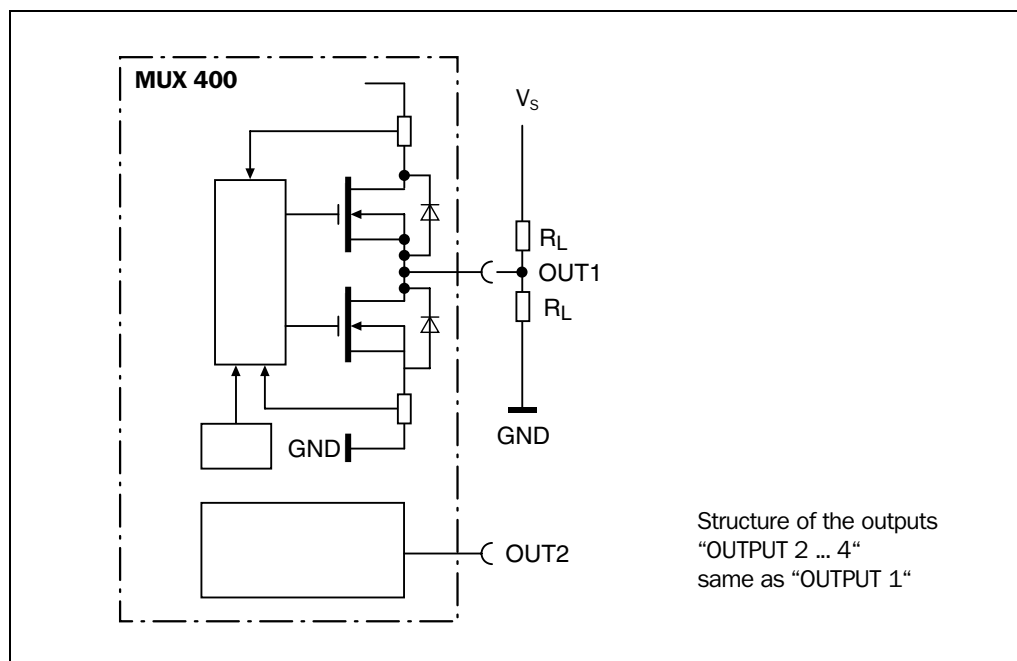

Fig. 5-6: Connecting the digital output "OUTPUT 1"
Fig. 5-6 show an example of how the "OUTPUT 1" output can be connected. Table 5-13 describes the identical characteristic data for the four digital outputs.
- Connect the outputs at the terminal strip in the field "OUTPUT", as shown in Fig. 5-6. If an output switches, the corresponding yellow LED lights up.